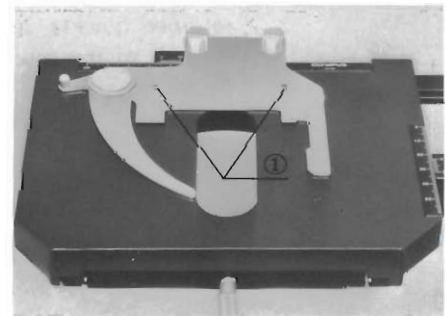

Fig. 10
- ◎ Stage clips for use with immersion objectives. (Fig. 10)